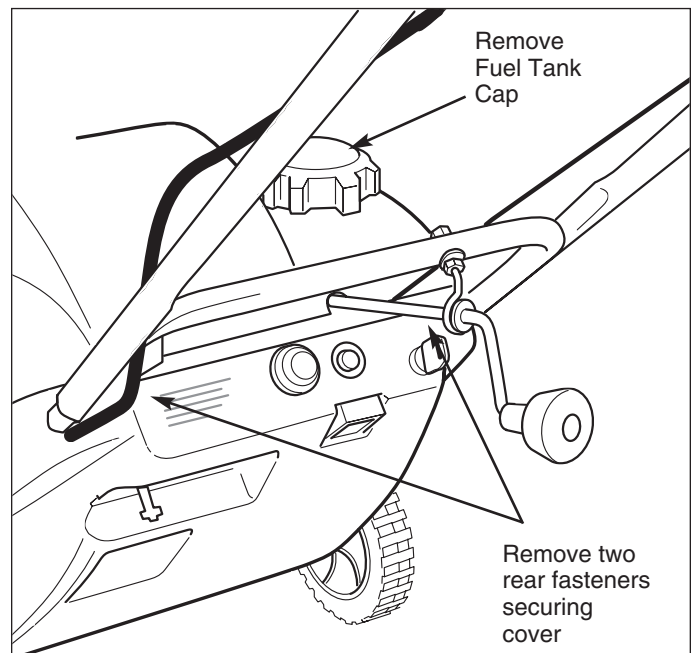

Figure 11. Remove and/or loosen Cover Screws
2. Remove the two rear fasteners securing the back of the cover housing. (Figure 11).